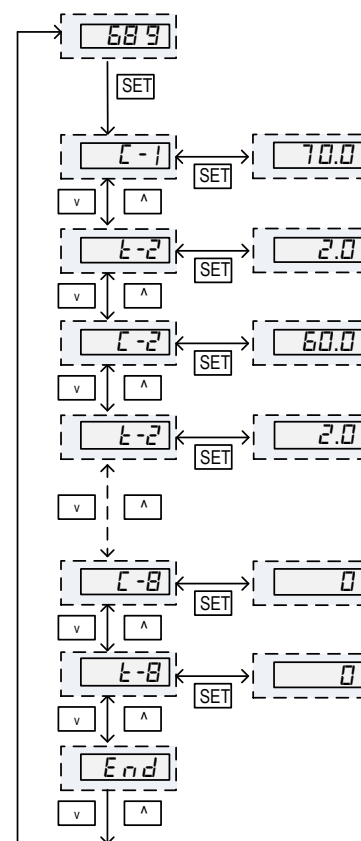

Figure 4. Flow chart of setting up control program.
**Programming Mode:** Review and edit temperature set value and set time for each steps. When the controller is in Program Run, Hold, or Stop mode, press SET key to enter the Programming mode. Please see Figure 4 for details.